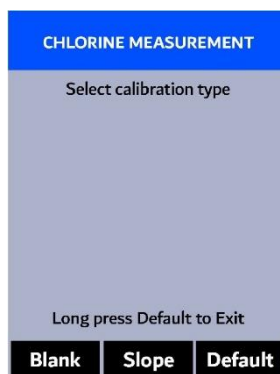

Figure 32.
4. Press **OK** to launch the **CHLORINE CALIBRATION** screen (Figure 32).